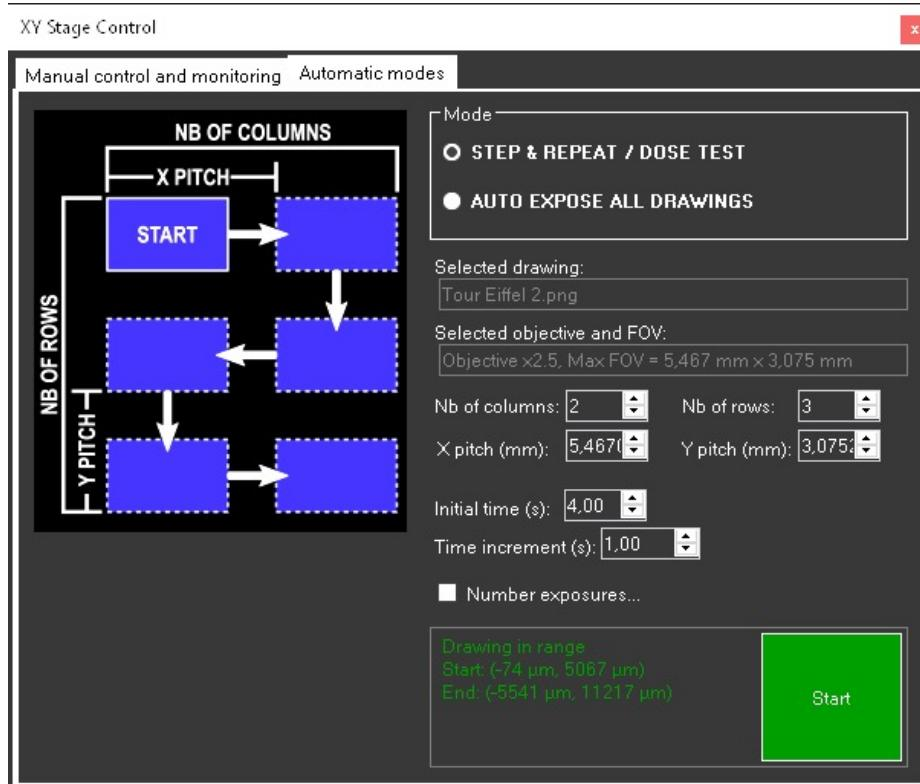

Figure 28 – Automatic mode tab in XY stage window
- Go to **Automation** menu and click on **Dose test**. A new window opens as shown in Figure 28. The “Step & Repeat / Dose Test” mode should be selected. “Selected drawing” and “Selected objective and Max FOV” fields respectively indicate which drawing will be exposing with which objective and the corresponding max projected field-of-view.
- **Initial time** (in s). It corresponds to the exposure time of the first element of the array (Start position in the schematic Figure 28).